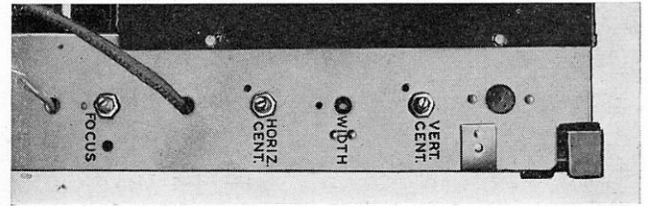

FIGURE 10. Rear Controls TP-3806
14. Use a mirror to observe the face of the picture tube, and adjust the auxiliary "focus" control on the rear of the chassis (shown in figure 10) for sharp, clear sweep lines in the picture.